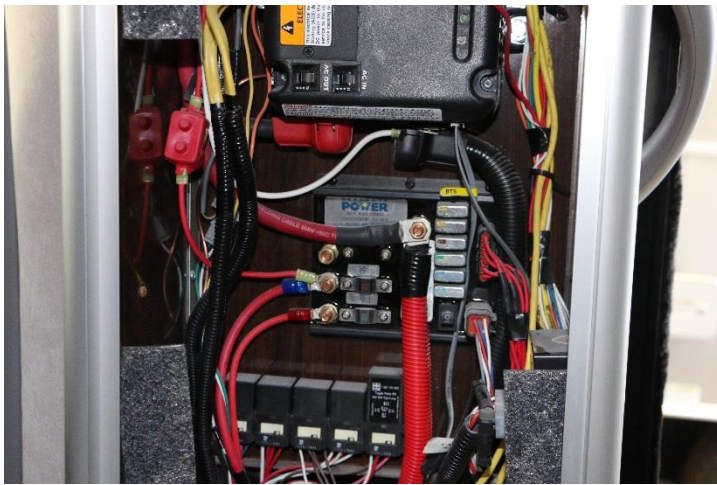

Figure 1
Step 3: If the 12V panel is manufactured by Ultimate Power Systems, and matches (Fig. 1) then stop and reassemble. No other action is required. If it matches (Fig. 2) then proceed to step 4.